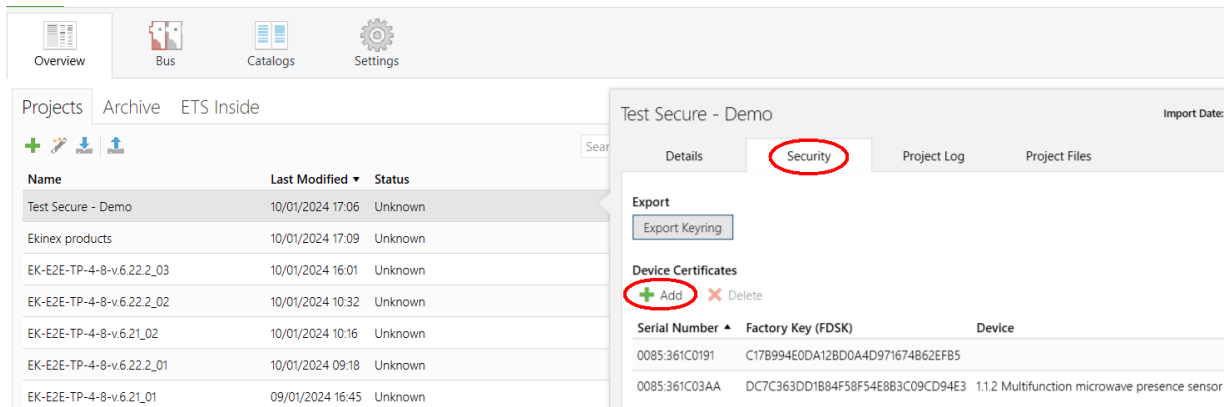

Figure 8 - Adding a certificate from ETS5
- For ETS5, click on the project as shown in Figure 8 below and then on "Add" in the Security -> Device Certificates section.